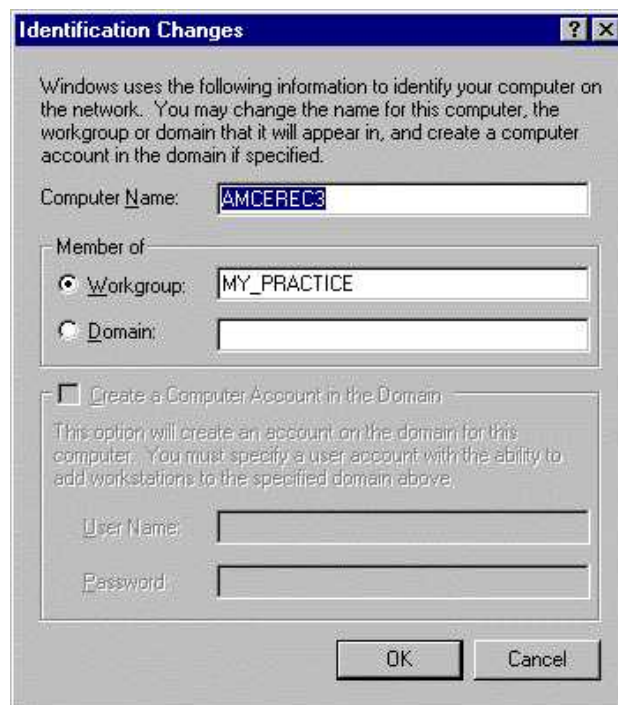

Fig. 8-32
- Select "Change" and make any necessary changes in the "Identification Changes" dialog box (Fig. 8-32).